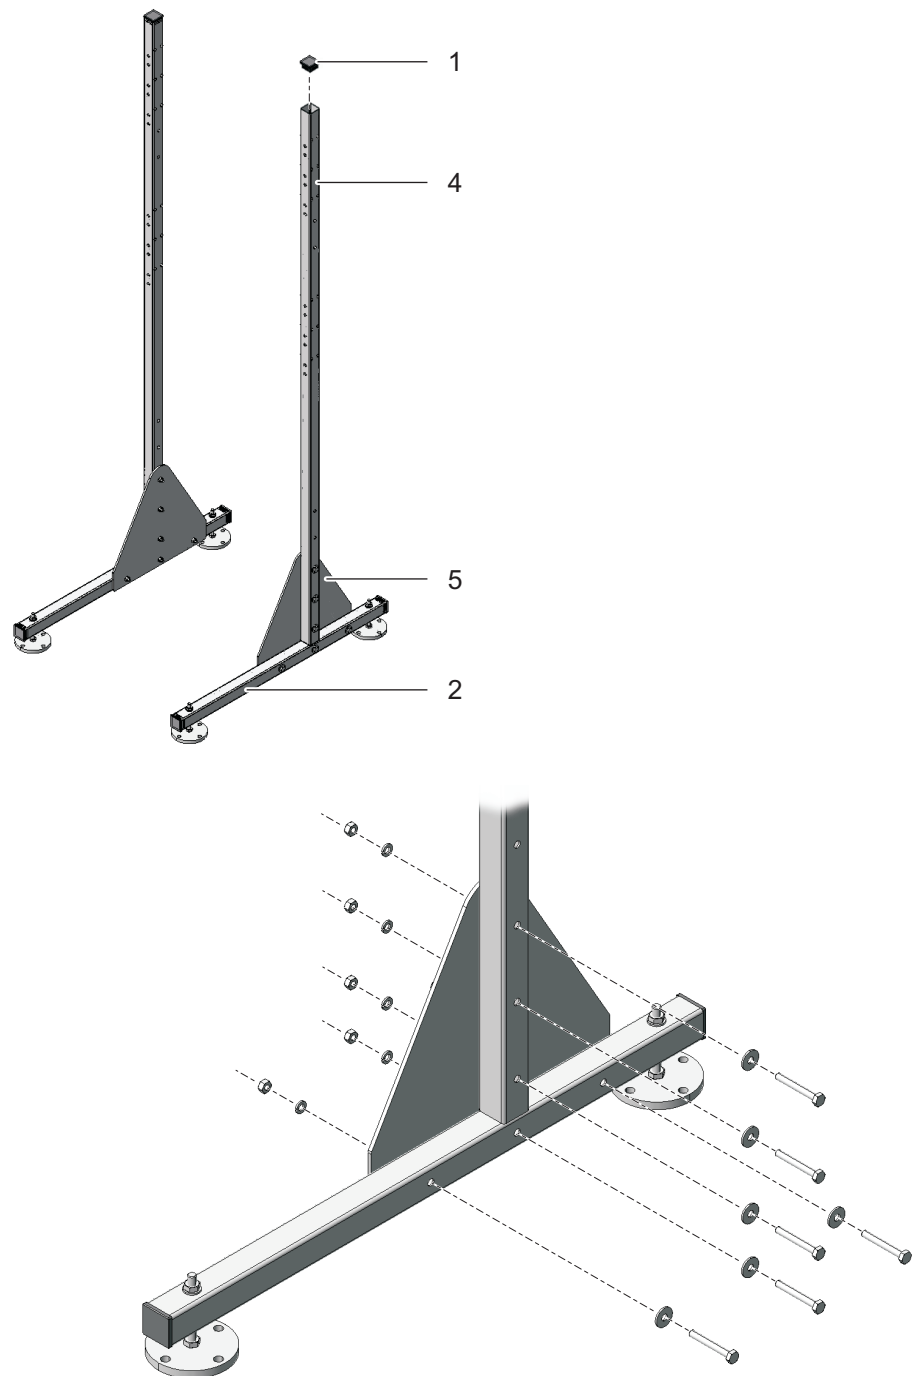

Fig. 3-2: Connecting the supporting pipes with the ground pipes
- 3** Press the plastic protective plugs (1) into the upper ends of both square supporting pipes (4).
- 4** Using the triangular stabilizing sheets (5), connect both square supporting pipes (4) with the preassembled ground pipes (2). For each side, use six hexagon head screws with large plain washers, spring washers and locknuts as shown in Fig. 3-2, 26. Make sure the two sides mirror each other after being mounted.